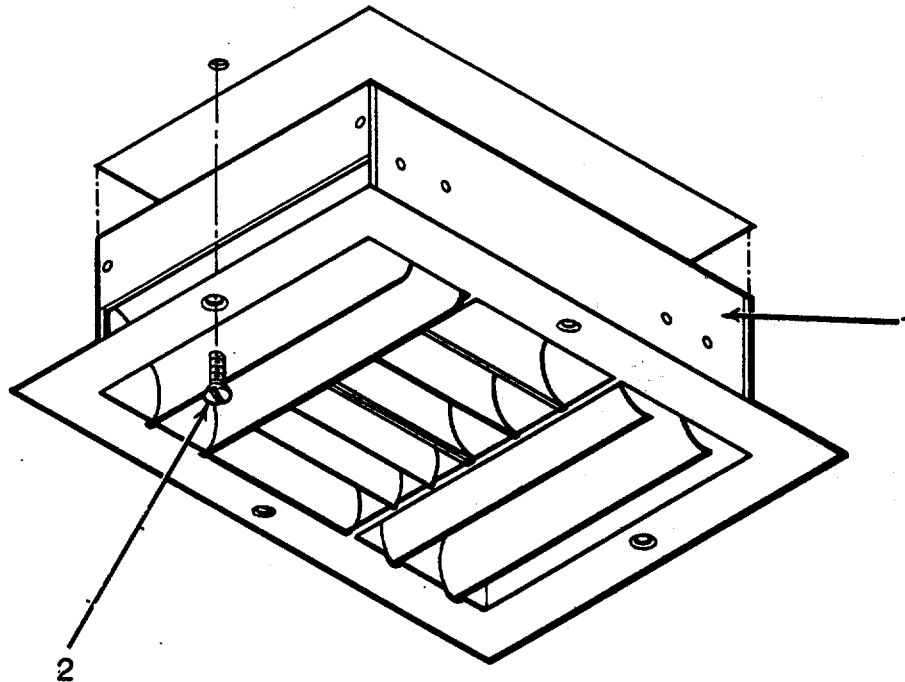

Figure 4-7. Air Conditioner Ducting Assembly 4-Way Register
- a. Repair by replacing ceiling vent 4-way register (1). (Figure 4-7.)
(1) Remove mounting screws (2) from register housing and remove register (1) from AC ducting assembly.
(2) Align replacement register (1) over holes in AC ducting assembly and secure in place with mounting screws (2).